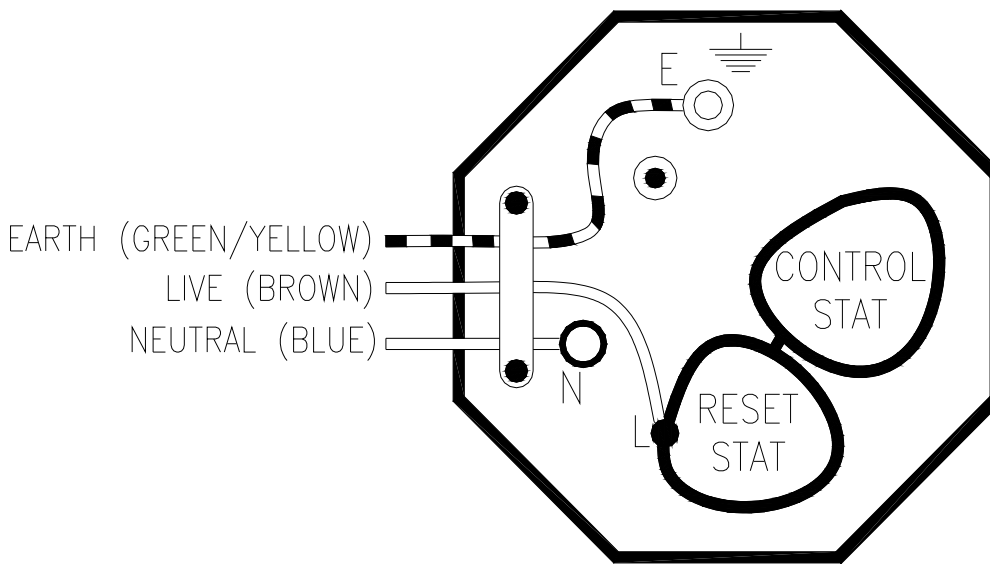

Fig 7
**8.1. The immersion heater** - A 3kW 230v 50Hz immersion heater is pre fitted to the cylinder at the factory. It should be wired in accordance with the instructions given in Fig 7. The cable **MUST** be routed through the strain relief bush. We recommend that the control thermostat is set at 60°C, the high limit trip is factory set at 85°C. The immersion heater conforms with EEC Directive 76/889 for radio interference and complies with BS 800:1977.